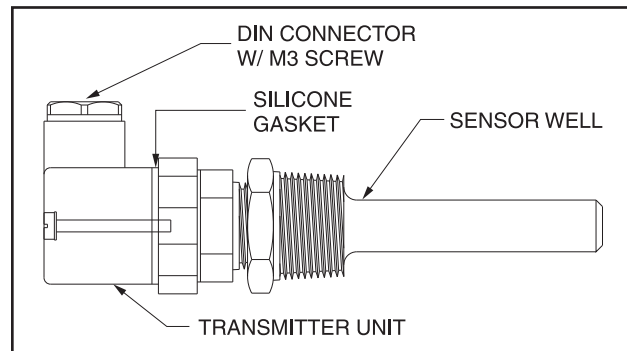

Figure 36 - TEMPERATURE TRANSMITTER
2. Remove DIN connector plug from transmitter. See Figure 36.